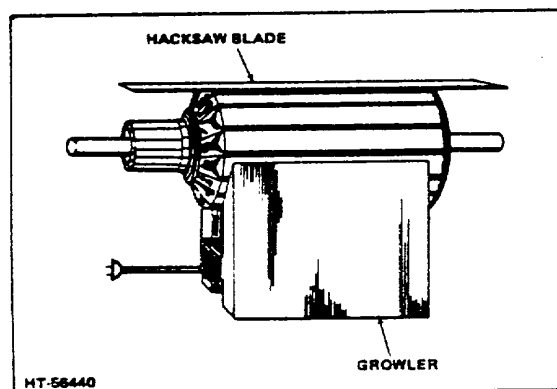

Figure 5-1. Testing an Armature for Shorts
1. Check the armature for shorts by placing it on a "growler" and with a steel strip, or a hacksaw blade held on armature core; rotate armature (Fig 5-1). When blade vibrates, armature is shorted in area of the core below the vibrating blade. Copper or dust in slots between commutator bars sometimes cause shorts which can be eliminated by cleaning out slots. Shorts at crossovers of coils at core end can often be eliminated by bending wire slightly and reinsulating exposed bare wire. When shorts cannot be eliminated, armature must be replaced.
3. Open circuits in an armature may be caused by a poor connection of leads in the commutator bars or by a broken wire in an armature coil. Either will cause sparking at the brushes. Poor connections and broken wires can often be detected visually. When this is not possible, set up the armature on the growler as shown in Figure 5-1. Test the top two adjacent bars with an a-c millivoltmeter. Rotate the armature and continue testing adjacent bars. When the millivoltmeter bridges the two bars